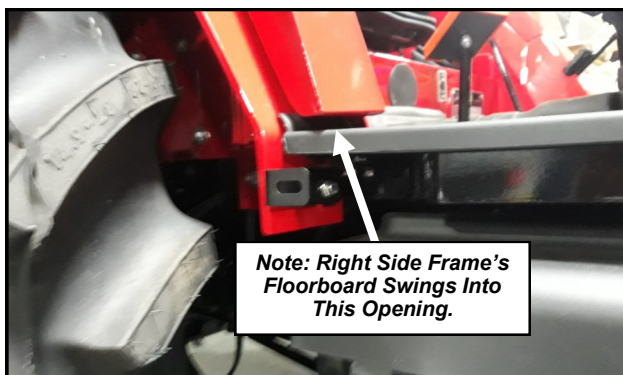

Fig. 7.6 (Right Side Frame Fasteners)
- 7.6 Repeat steps 7.1 thru 7.5 on the right side of tractor. See Figure 7.6.